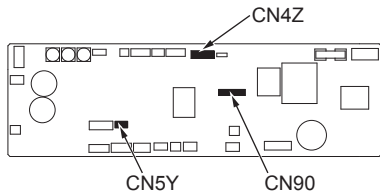
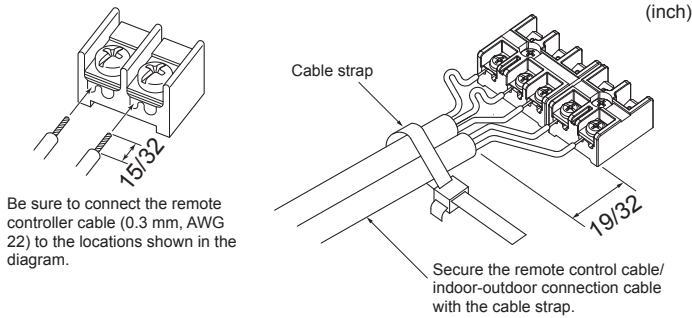

Fig. 4-2
Fig. 4-3
- ① Transparent PVC pipe
- ④ O.D. $\phi 32$ mm (1-1/4 inch) PVC TUBE (Slope 1/100 or more)
4.1. Indoor unit (Fig. 4-1, Fig. 4-2, Fig. 4-3)